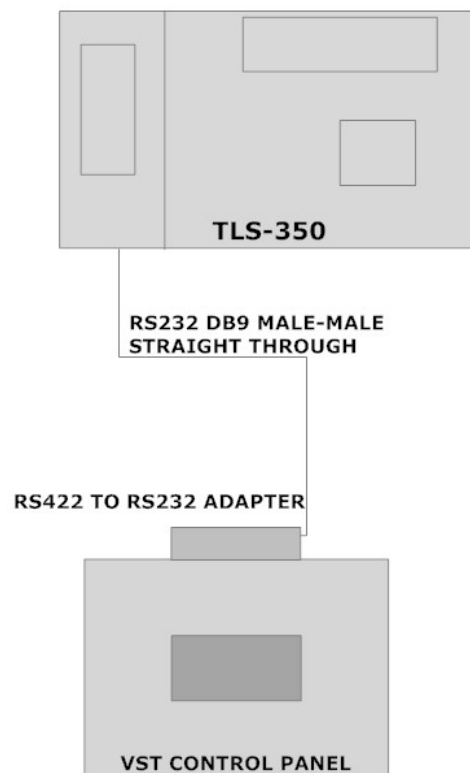

Figure 11: RS422 to RS232 Adapter to TLS-350 Connection - Option A Direct Connection
- See Figures 11 - 15
- **OPTION A:** Using the 6 foot RS232 (DB9 Male to Male) serial cable supplied with the VST *Green Machine*, connect one end of the serial cable into the RS232 port on the Adapter located on top of the VST Green Machine Control Panel and the other directly to the TLS-350 Multi-port MODBUS card. Secure these connections. If a longer cable is needed it may be ordered, however the cable length should not exceed 50 feet. Finally set the communications setting for the COM 6 in the TLS-350 to 9600 BPS, 8 data bits, 1 stop bit, No parity. See figure 11.